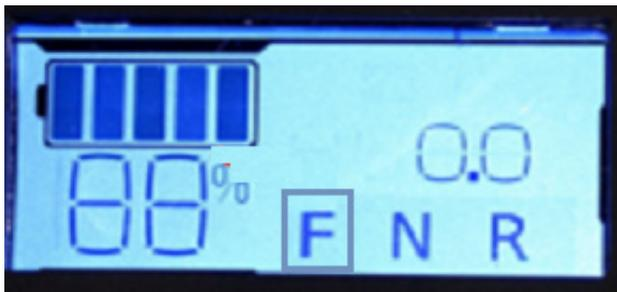

FIGURE 7
23. The “F” on the screen now has a box around it as seen in Figure 7.